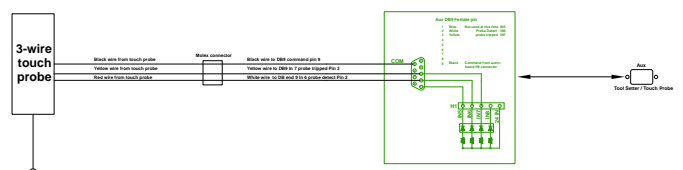

FIGURE 31—The complete schematic file is acorn\_mill\_connection\_back\_panelconfig\_touch\_probe.pdf.
- You connect the three wires from the touch sensor to the 9400 controller box using the DB9 connector that goes into the Aux Tool Setter / Touch Probe DB9 (see Figure 31).